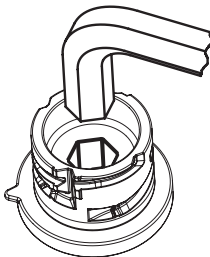

Fig.1
- Screw the threaded connector by means of a hexagon socket, tightening torque 8 Nm (fig. 1).